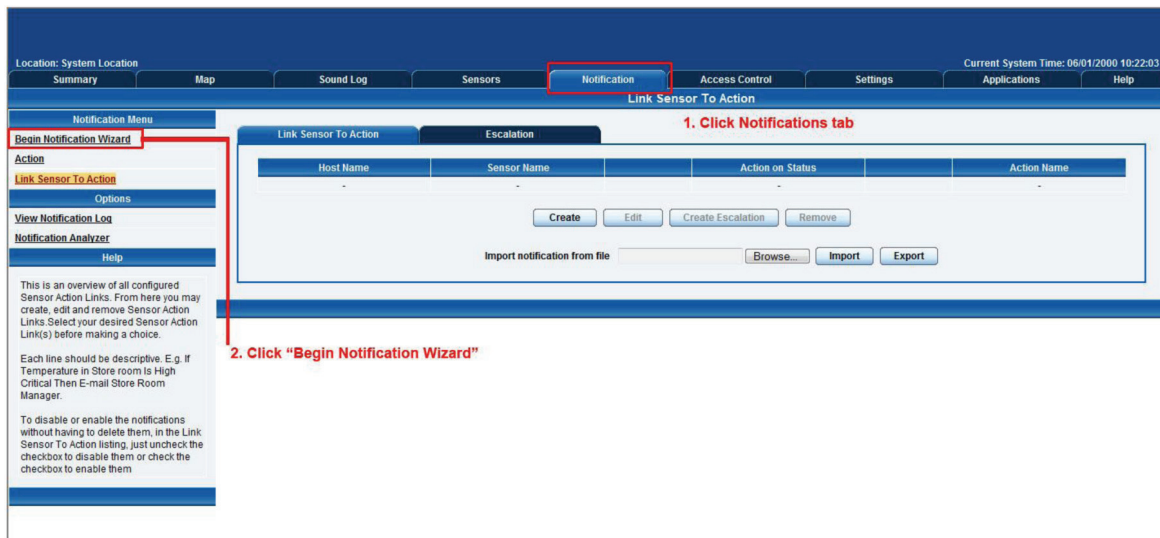

Figure 4-1. Notification Wizard tab.
1. Click on the “Begin Notification Wizard” tab as shown in Figure 4-1.